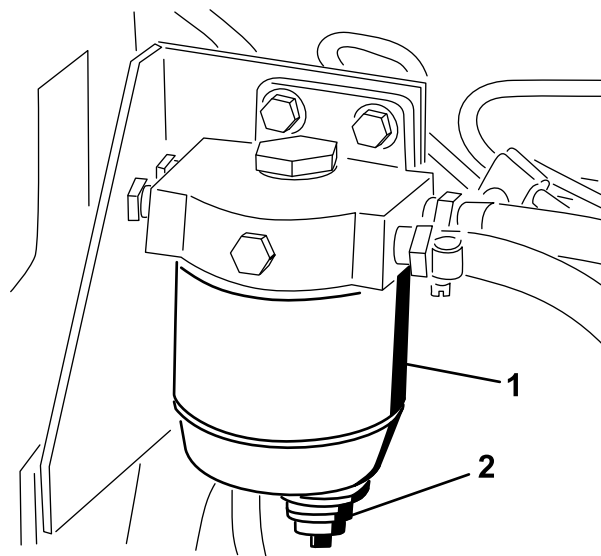

Figure 55
Drain water or other contaminants from the fuel filter/water separator (Figure 55) daily.
1. Clean the area where the filter canister mounts (Figure 55).
2. Remove the filter canister and clean the mounting surface (Figure 55).
4. Install the filter canister by hand until the gasket contacts the mounting surface, then rotate it an additional 1/2 turn (Figure 55).